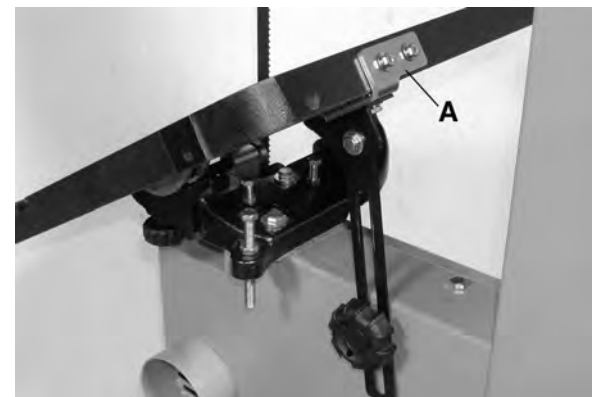

FIGURE 6
3. Mount the tilt bracket (A) Fig.6 to the side of the table using the bolts, spring washers and washers already mounted to the table.